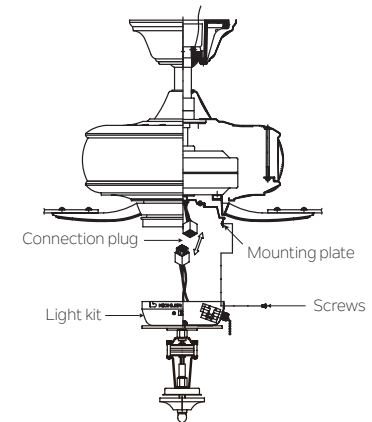

Fig. 17
**Step 2.** Raise and hold the light kit assembly close to the mounting plate. Push the nine pin square wire connectors together. One from the fan and one from the light kit assembly. (Fig. 17)
**Step 3.** Tuck the connections neatly into the switch housing and attach the light kit assembly to the ceiling fan. Place the key hole slots on the top edge of the switch housing over the mounting screw heads on the mounting plate. Turn the switch housing until the screw heads are at the narrow end of the key hole slots. (Fig.17) Tighten all of the screws.